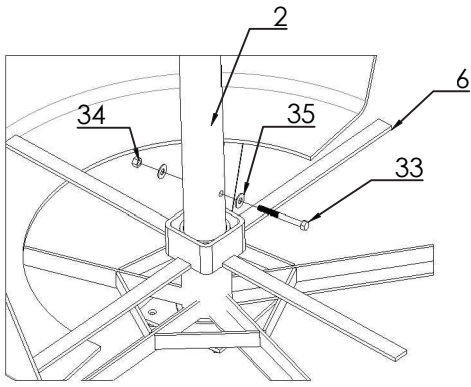

Figure 3
6. After installing the feed sweep, place a 5/16 x 3-in. bolt with a 5/16-in. washer, Ref. Nos. 33 & 35, into the pre-punched hole in Axle, Ref. No. 2. Secure bolt using another 5/16-in. washer with a 5/16-in. hex nut, Ref. Nos. 35 & 34 (See Figure 3). Tighten nut.